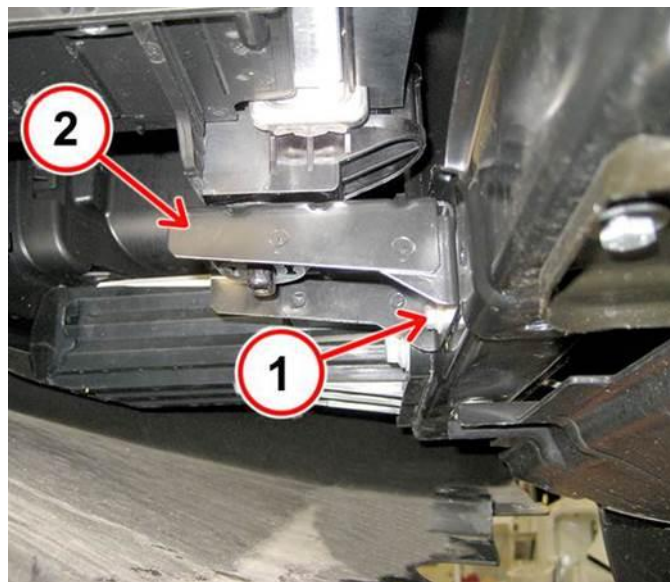

Fig. 8 Install Radiator Support Brackets
11. Install the radiator support brackets (2) and secure with bolts (1) on both the right and left sides of the vehicle (Fig. 8).